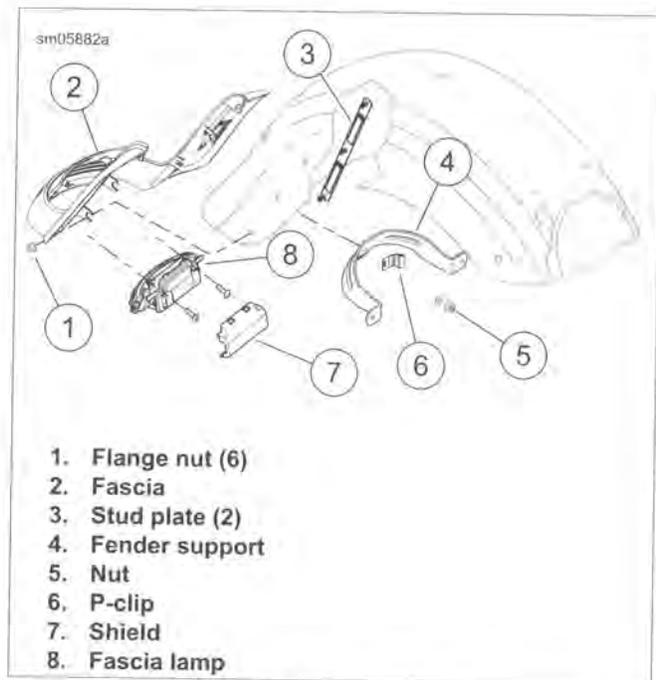

Figure 7-23. Rear Fascia
- See Figure 7-23. Remove shield (7) and disconnect rear lights harness and tail light jumper harness from fascia lamp.
- Remove screws securing lamp (8).
- See Figure 7-23. Secure lamp (8) with two screws. Tighten to 18-22 in-lbs (2.0-2.5 Nm).
- Install shield (7).